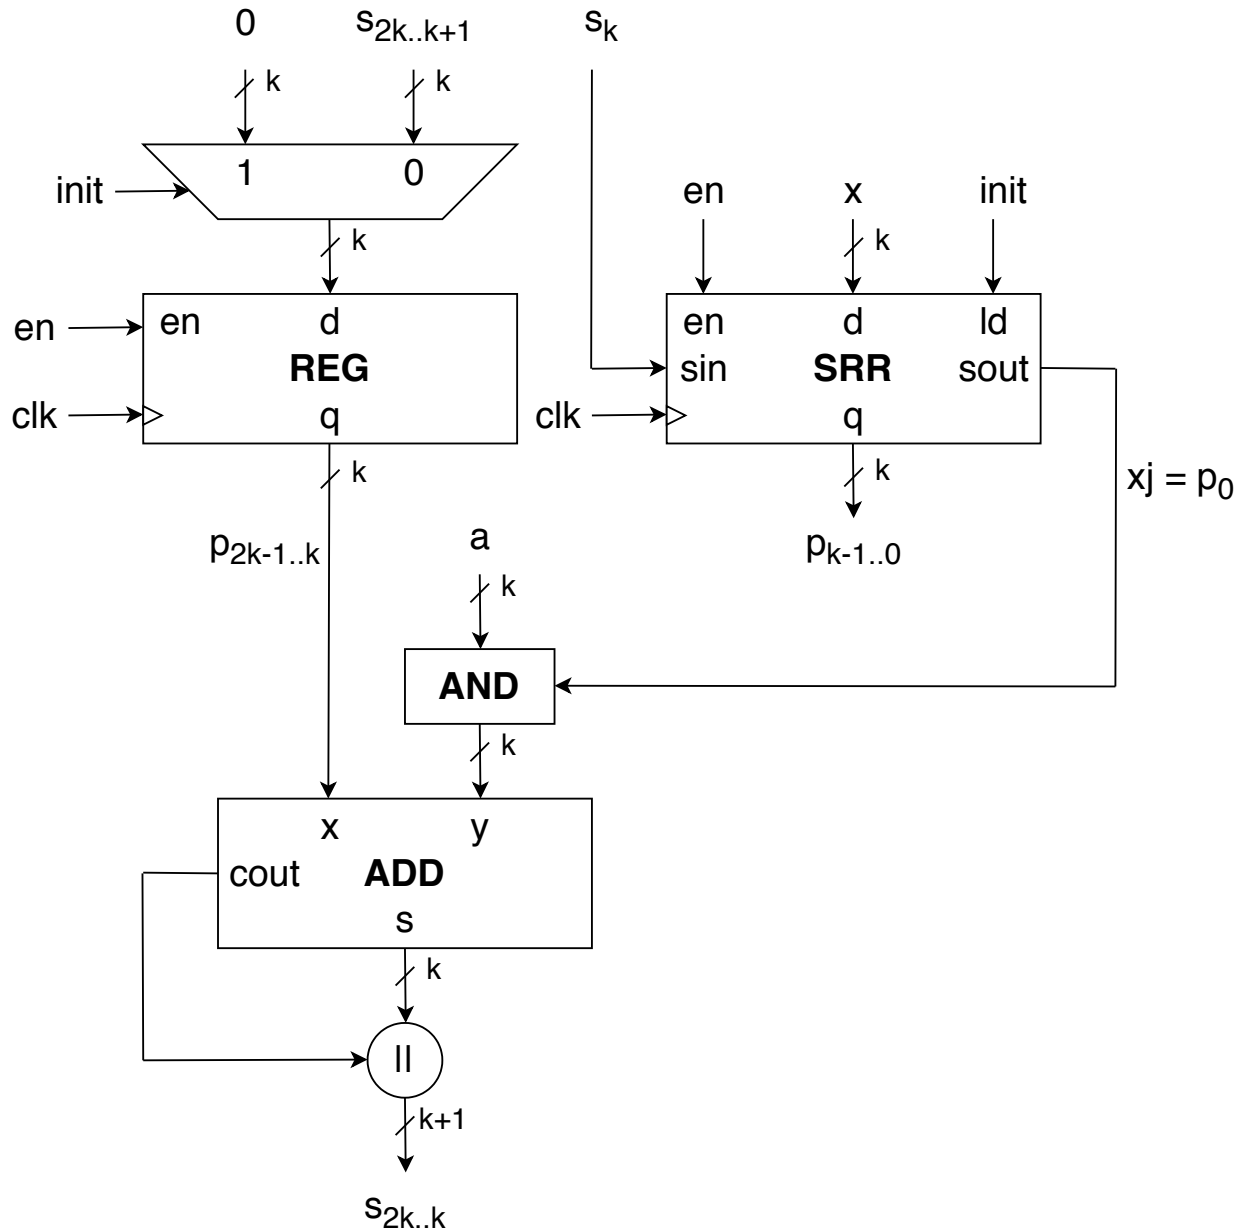

Fig. 1: Block diagram of a Sequential Unsigned Multiplier (SEQ_UMUL), implementing the Shift-and-Add algorithm.
Develop a Register-Transfer Level (RTL) VHDL description of SEQ_UMUL based on the block diagram shown in Fig. 1. In this diagram, the following notation is used:
1. Modify the block diagram shown in Fig. 1, so the circuit can support signed multiplication of k-bit integers expressed using the 2's complement representation.